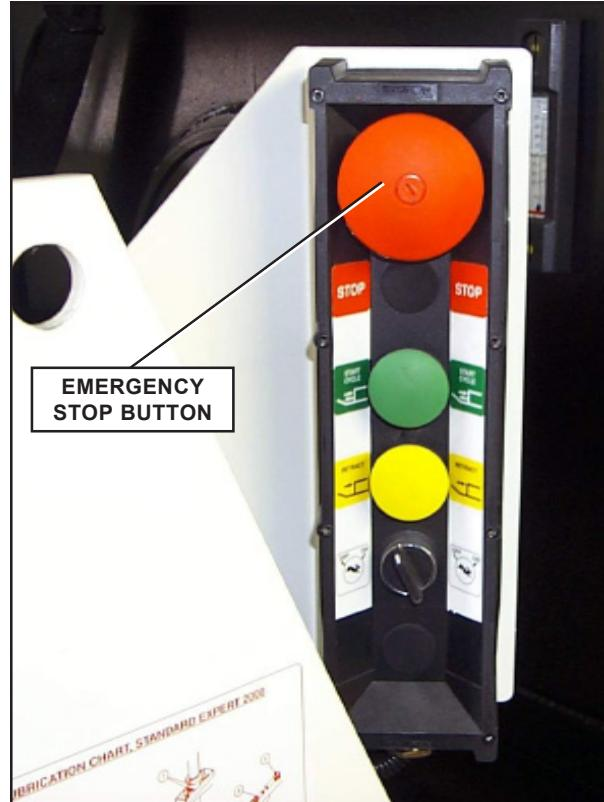

FIGURE 13.13
1. Press on the nearest Emergency Stop Button (figure 13.13).